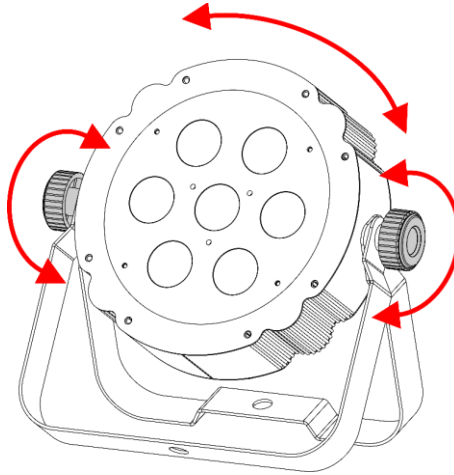

Fig. 08
- 03) Turn the **adjustment screws (02)** counterclockwise to release them.
- 04) Tilt the device at the desired angle (see Fig. 08).
- 05) Turn the **adjustment screws (02)** clockwise to tighten them. Make sure that the device cannot move freely after the **adjustment screws (02)** are tightened.